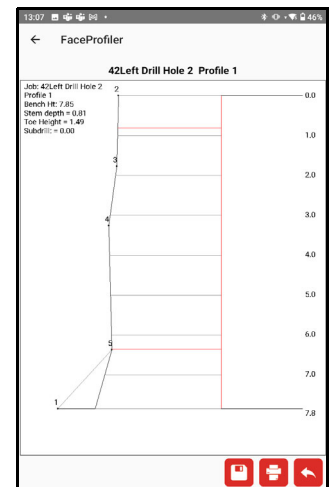

Figure 52
- Tap [Plot] to view the calculated data as a graphic plot (Figure 52, Page 40).
2. Tap the [Plot] button. Figure 52 shows a sample plot.